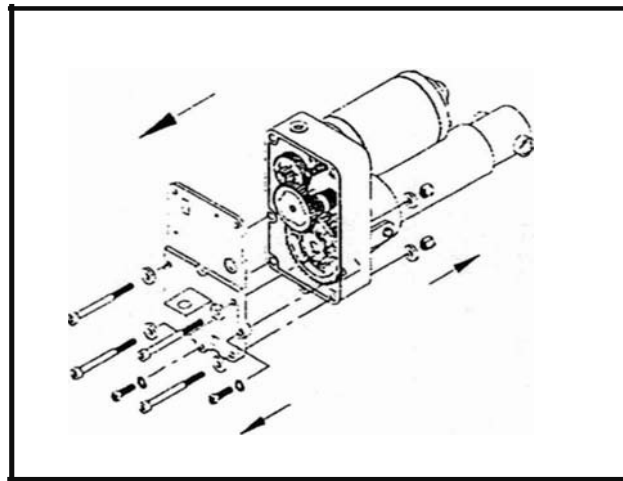

Fig.8
8. Unscrew and remove the top base of the elevation unit. (See Fig.8)